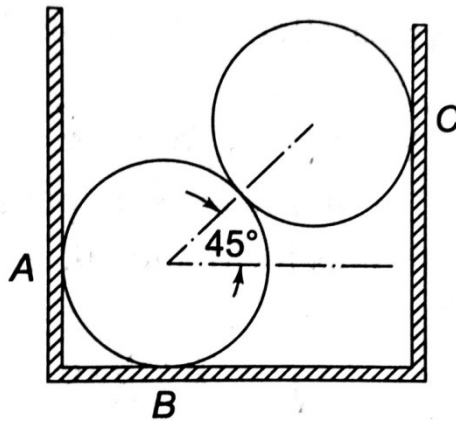

Figure 2
2. Two equal cylinders, each weighing 900 N are placed in a box as shown in figure 2. Neglecting friction between the cylinders and the box, estimate the reactions at A, B and C. Find F_A , F_B , F_C .